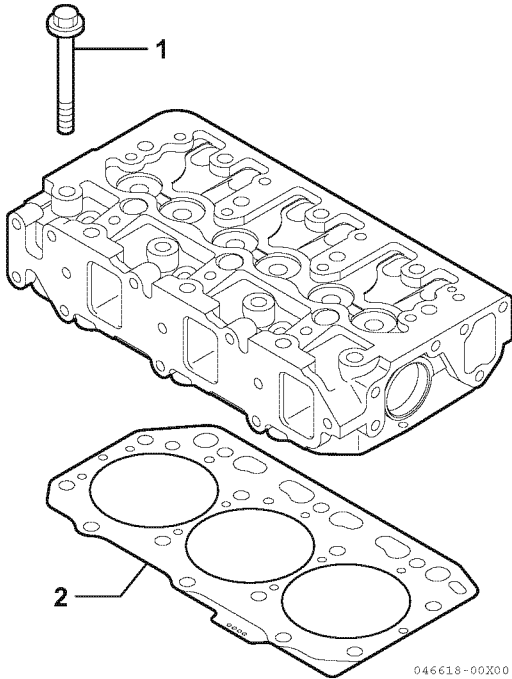

Figure 6-10
2. Remove the cylinder head bolts (Figure 6-10, (1)).
3. Lift the cylinder head away from the cylinder block. Discard the cylinder head gasket (Figure 6-10, (2)). Position the cylinder head on the work bench to prevent damage to the combustion surface.